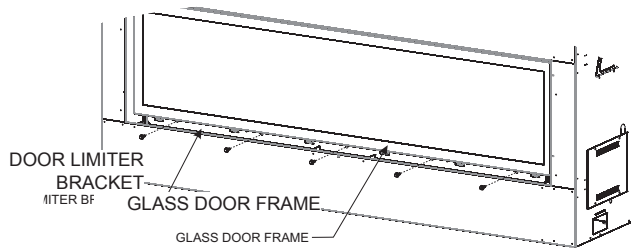

Figure 22
Before the Glass Door can be removed, a Door Limiter Bracket must be removed. Using a 5/16-inch hex nut driver, remove (5) #10-24 x 3/8-inch screws that retain the Limiter Bracket to the bottom flange of the Glass Door frame, and set the bracket aside. See Figures 22 and 23.